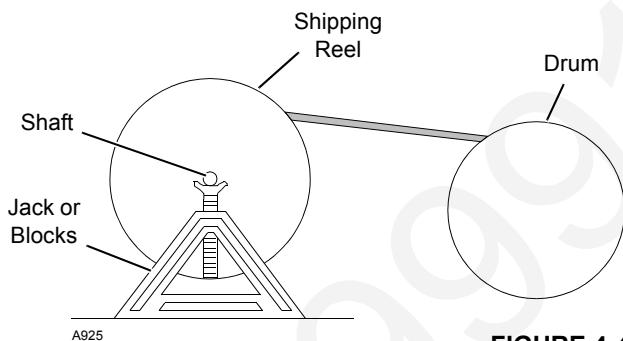

FIGURE 4-45
1. Mount wire rope shipping reel on a shaft supported at both ends by jacks or blocks as shown in Figure 4-45.